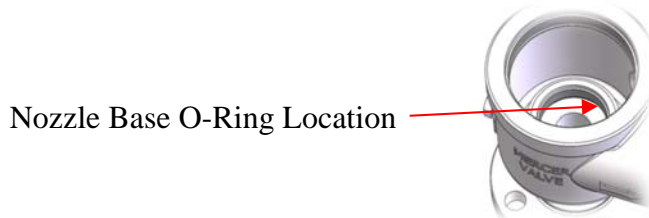

Figure 57: Top Entry Nozzle Base O-Ring Location
14. Install the nozzle base o-ring into the lower corner of the nozzle pocket. See Figure 57.